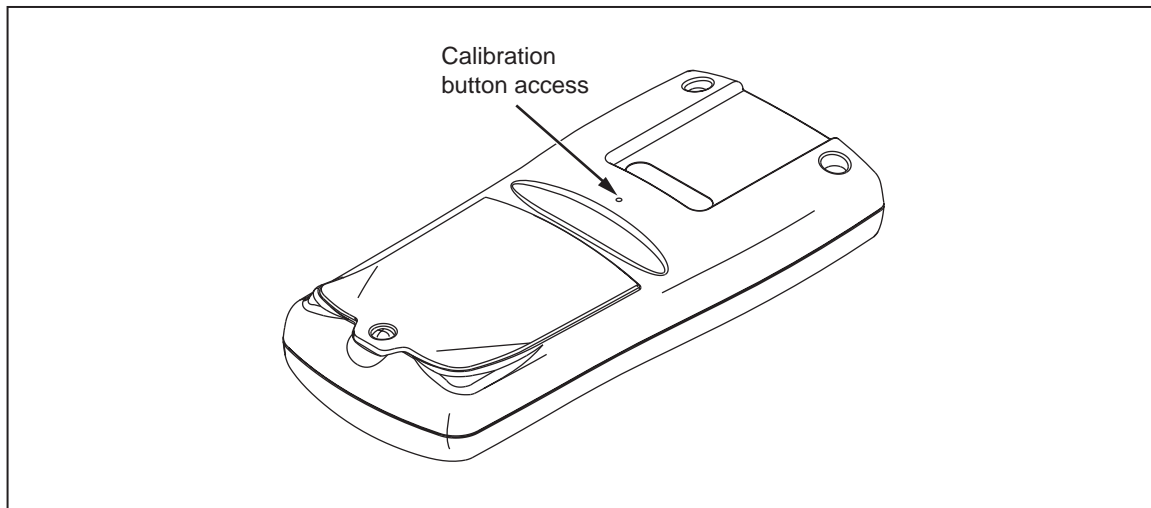

Figure 4. Calibration Button Access
2. Turn the thermometer on, with a small, blunt probe, press the calibration button located on the back and in the center of the thermometer. Refer to Figure 4.